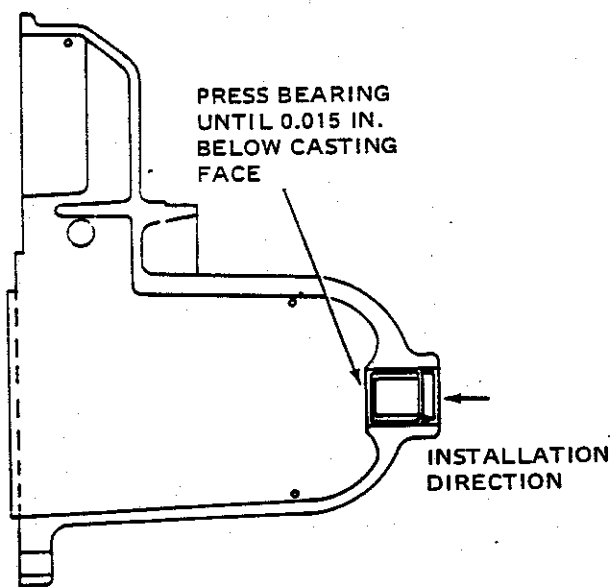

Figure 6-6. Replacing Drive Housing Bushing
2. Soak the wicks (16, 24) and bushings (14, 23) with a non-detergent SAE No. 20 oil, or equivalent. Install wick (24) and press a new bushing (23) into commutator end frame (22). Use a thin-walled tube to press in new bushing (14) into drive housing (12) as shown in figure 6-6. Install oil wick (16) and plug (15).